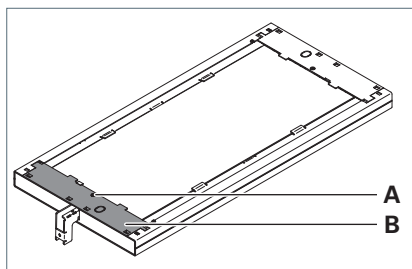

Fig. 1: Removing the cover.
- ▶ Unscrew the screw **A** from the cover **B**, see Fig. 1.